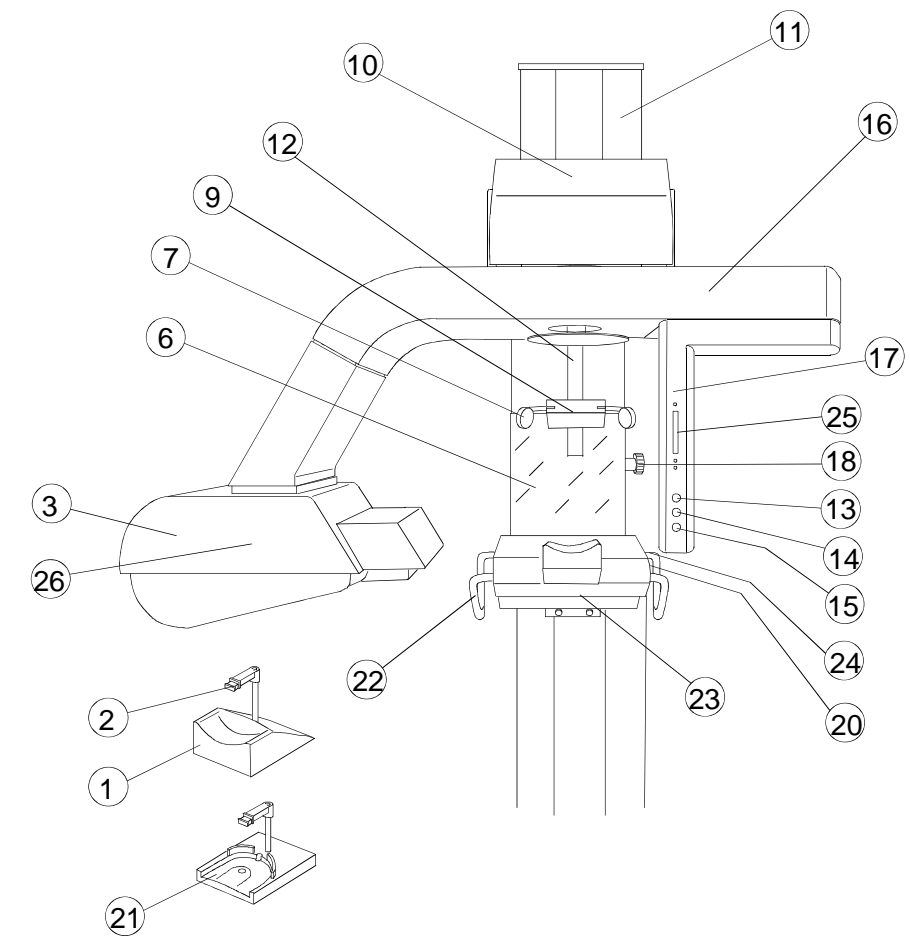
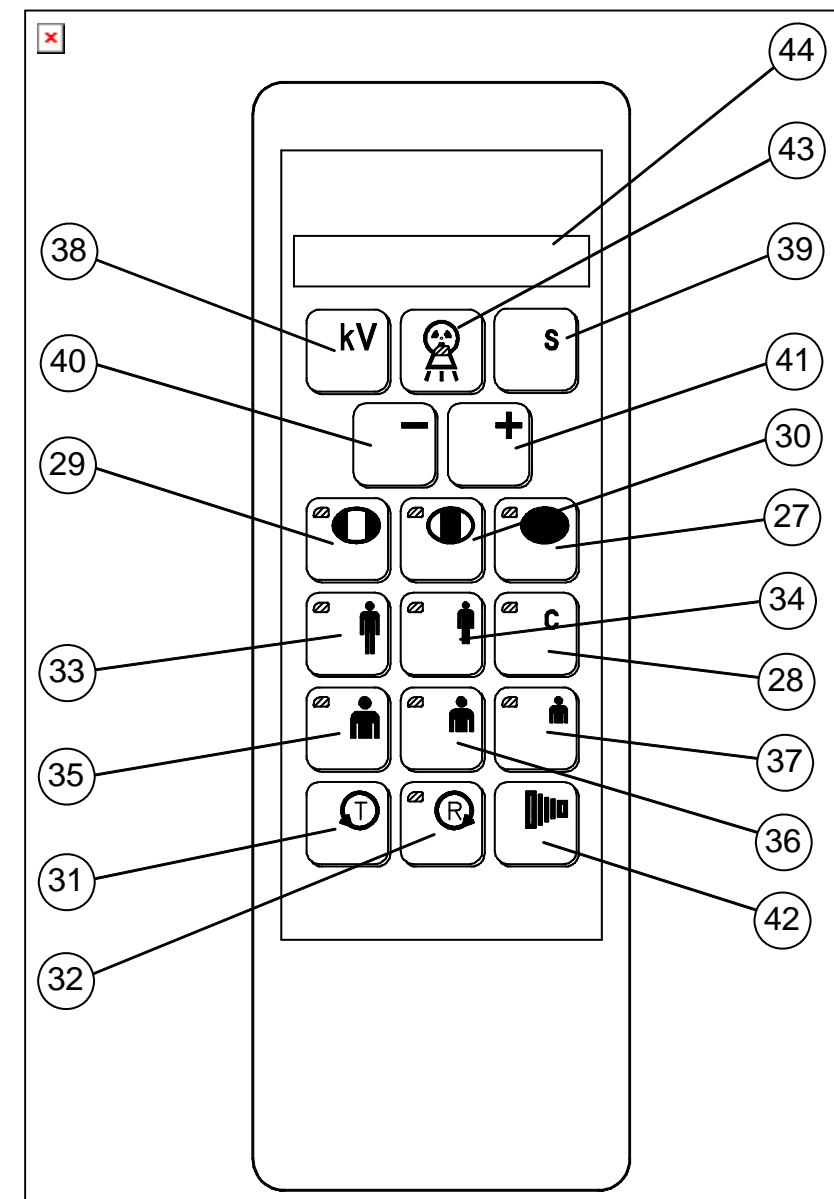

Figure 6: Stand
Figure 7: Remote control
### 6.3.2.3 Performing the exposure (refer to Figure 7)
The equipment setting is like the one described for panoramic examination at point 6.2.1 as the only difference between the Panoramic Exposure and the Sinus one is due to the different chin support used: the chin support to be used in the Sinus examination is as follows (numbers refer to Figure 6 at the end of this manual):
## 6.5 Messages on display (refer to Figure 6 and Figure 7)
**Remedy:** verify the X-rays emission by checking light and acoustic signal (light **43** Figure 7), If the defect persists call for **Technical Assistance**.